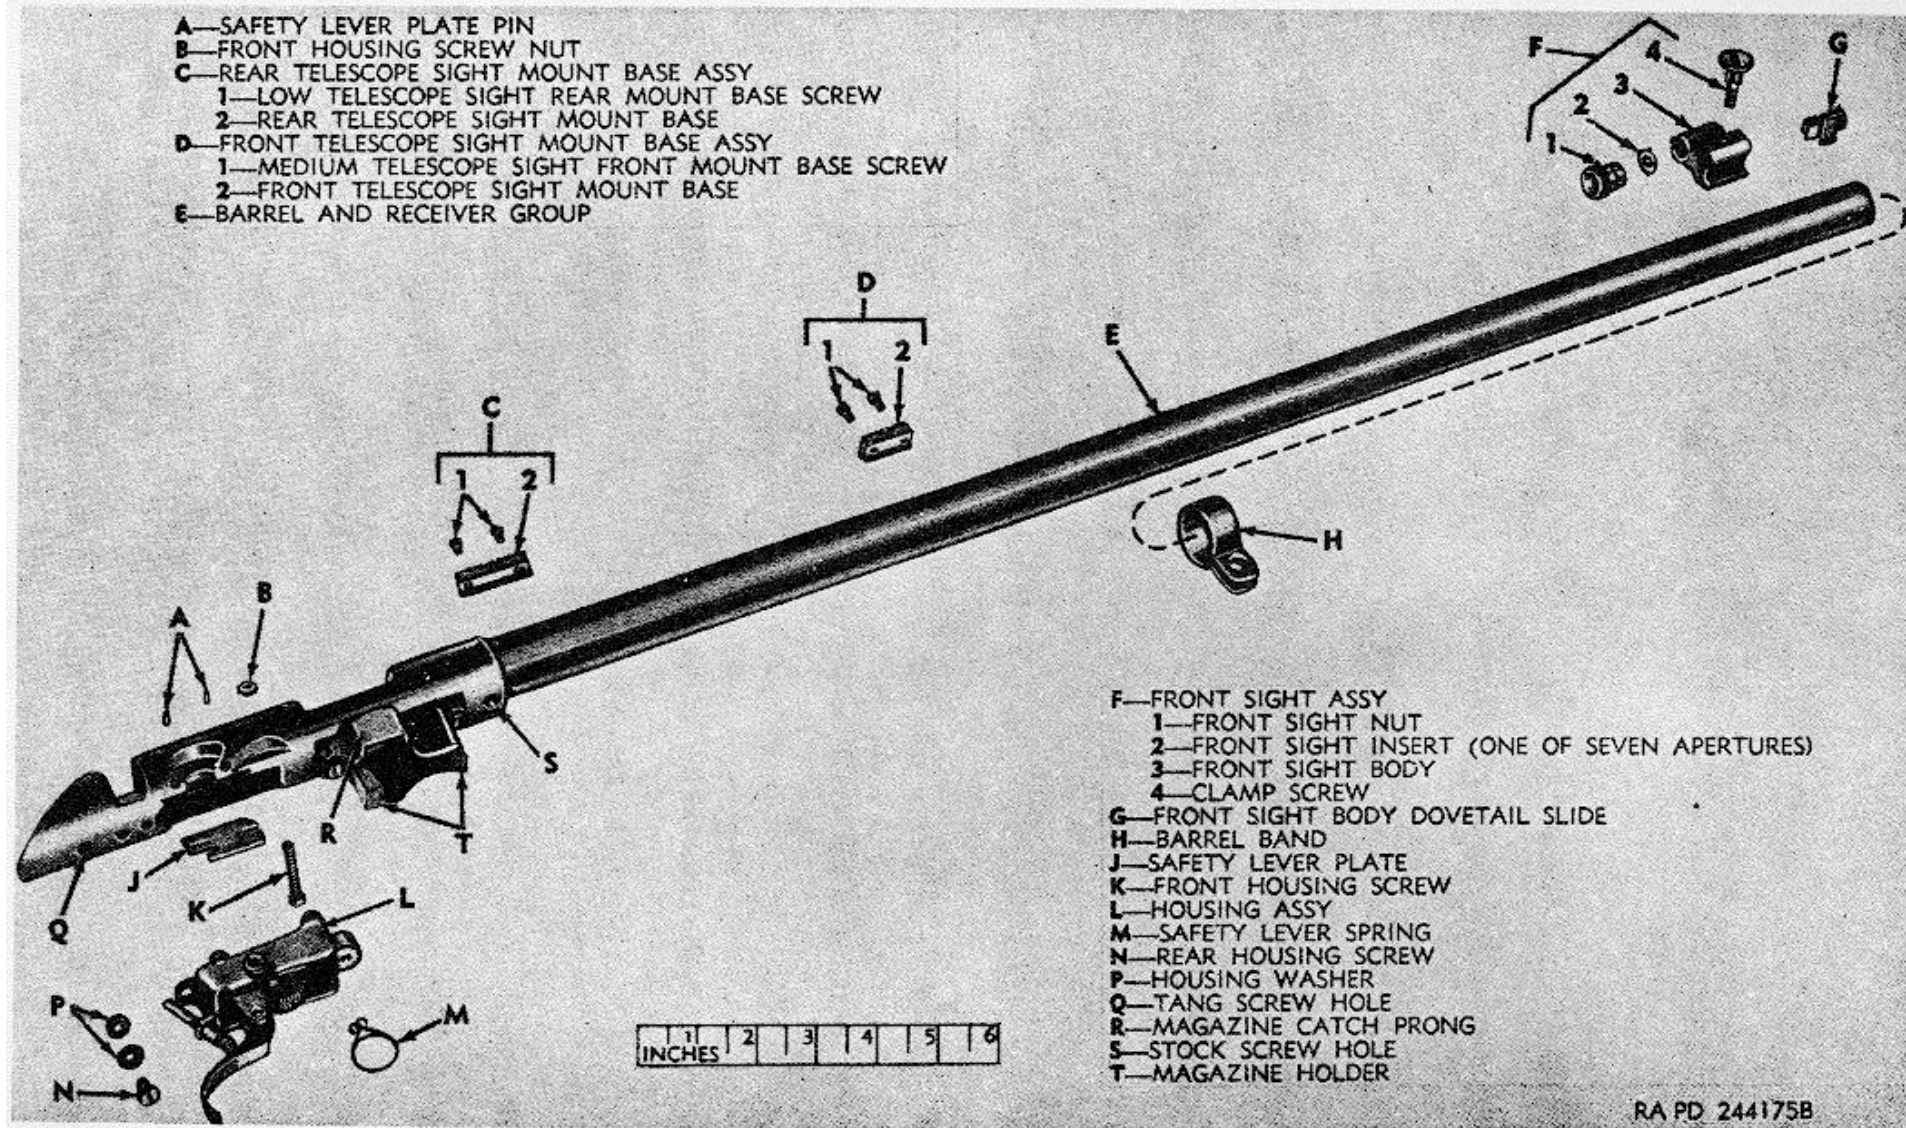

Figure 60. Barrel and receiver group with related parts removed (Winchester rifle M52 (HB) ).
**Note.** The key letters shown below in parentheses refer to figure 60.
- (7) Slide the safety lever plate (J, fig. 60) in its groove in the receiver to its extreme forward position. Install the housing assembly on the receiver and align holes; there must be no interference between the safety lever plate and the sear pin.